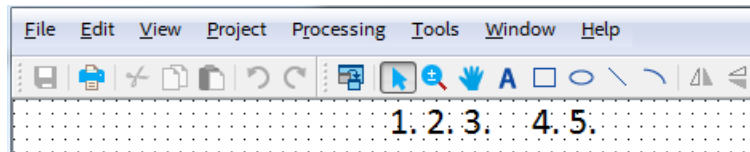

Figure 17: Top of symbol editor window
- In the Quartus window select File => Open. In the pop-up window, to the right of the File name field, change the filter type to All Files (\*.\*). Select fadd.bsf and click Open. The symbol editor opens with the fadd symbol. Right click on the fadd.bsf file tab and select Detach Window. Figure 17 shows the top of the editor window.